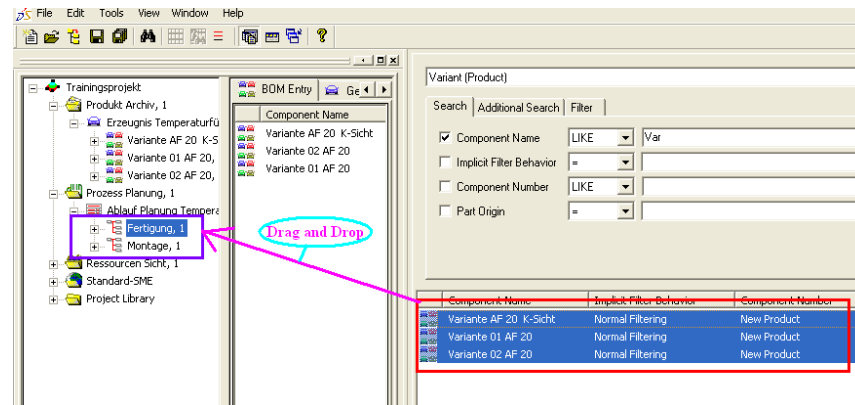

Figure 66: Create Link by Drag and Drop
- 1) Drag and drop finder result into PPR tree to create link between objects. The right side finder result contains product objects and left side PPR tree. Create link between product objects and process objects by drag and drop from finder (product objects) to PPR tree (process objects). Please refer to the Figure 66.